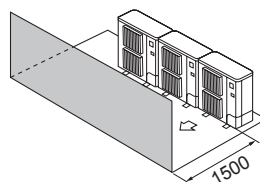

Fig. 2-14
- ③ Kun forhindringer foran (Fig. 2-14)